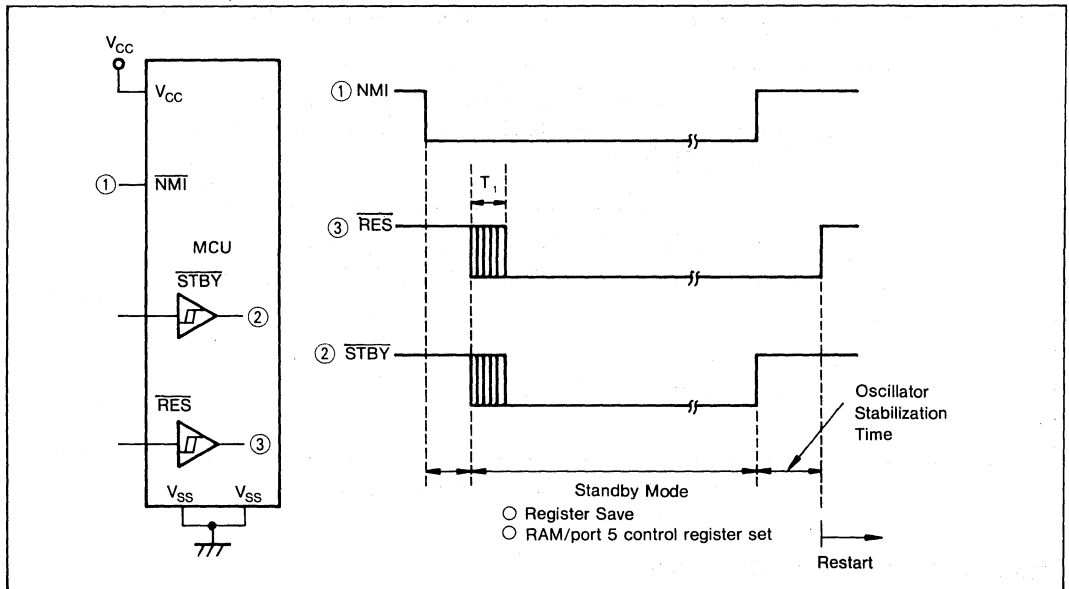

Figure III-21. Standby Mode Timing
**Question:** The timing for the standby mode is shown in figure III-21 (see also figure 3-5). Is T1 in the figure defined?